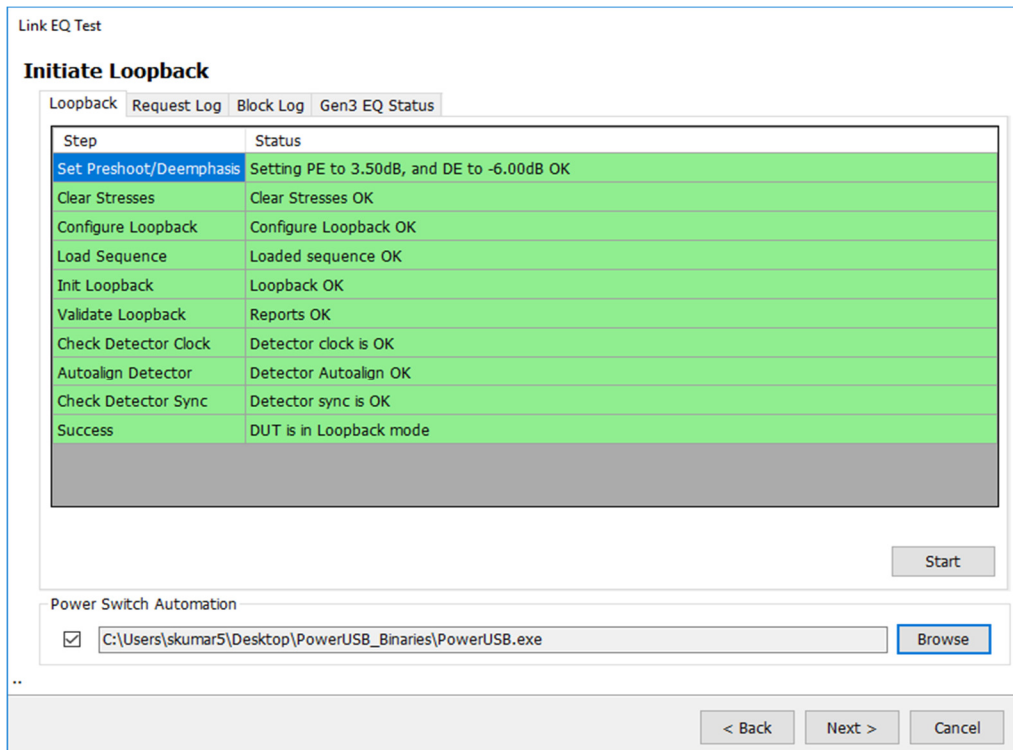

Figure 50
5. Enable the Power Switch Automation and load the Script .exe file which will Power ON the DUT during loopback as shown in Figure 50.